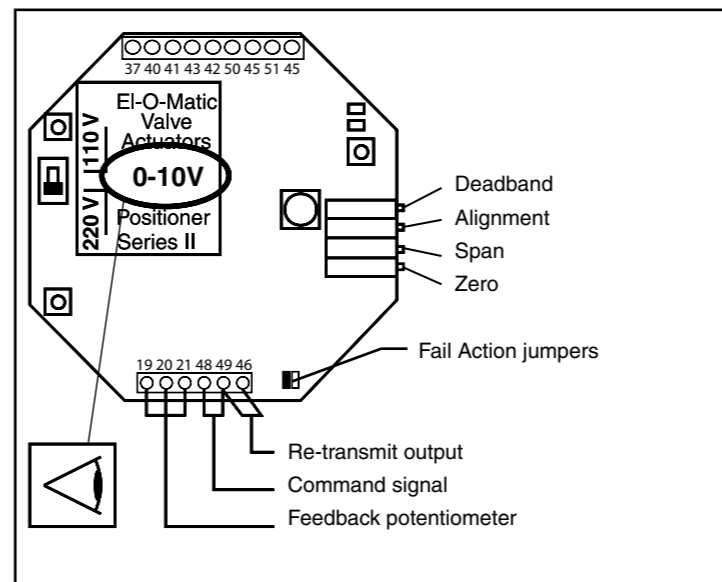

Fig. 5 Electrical connections and settings
* **There are two versions (See fig 5):**